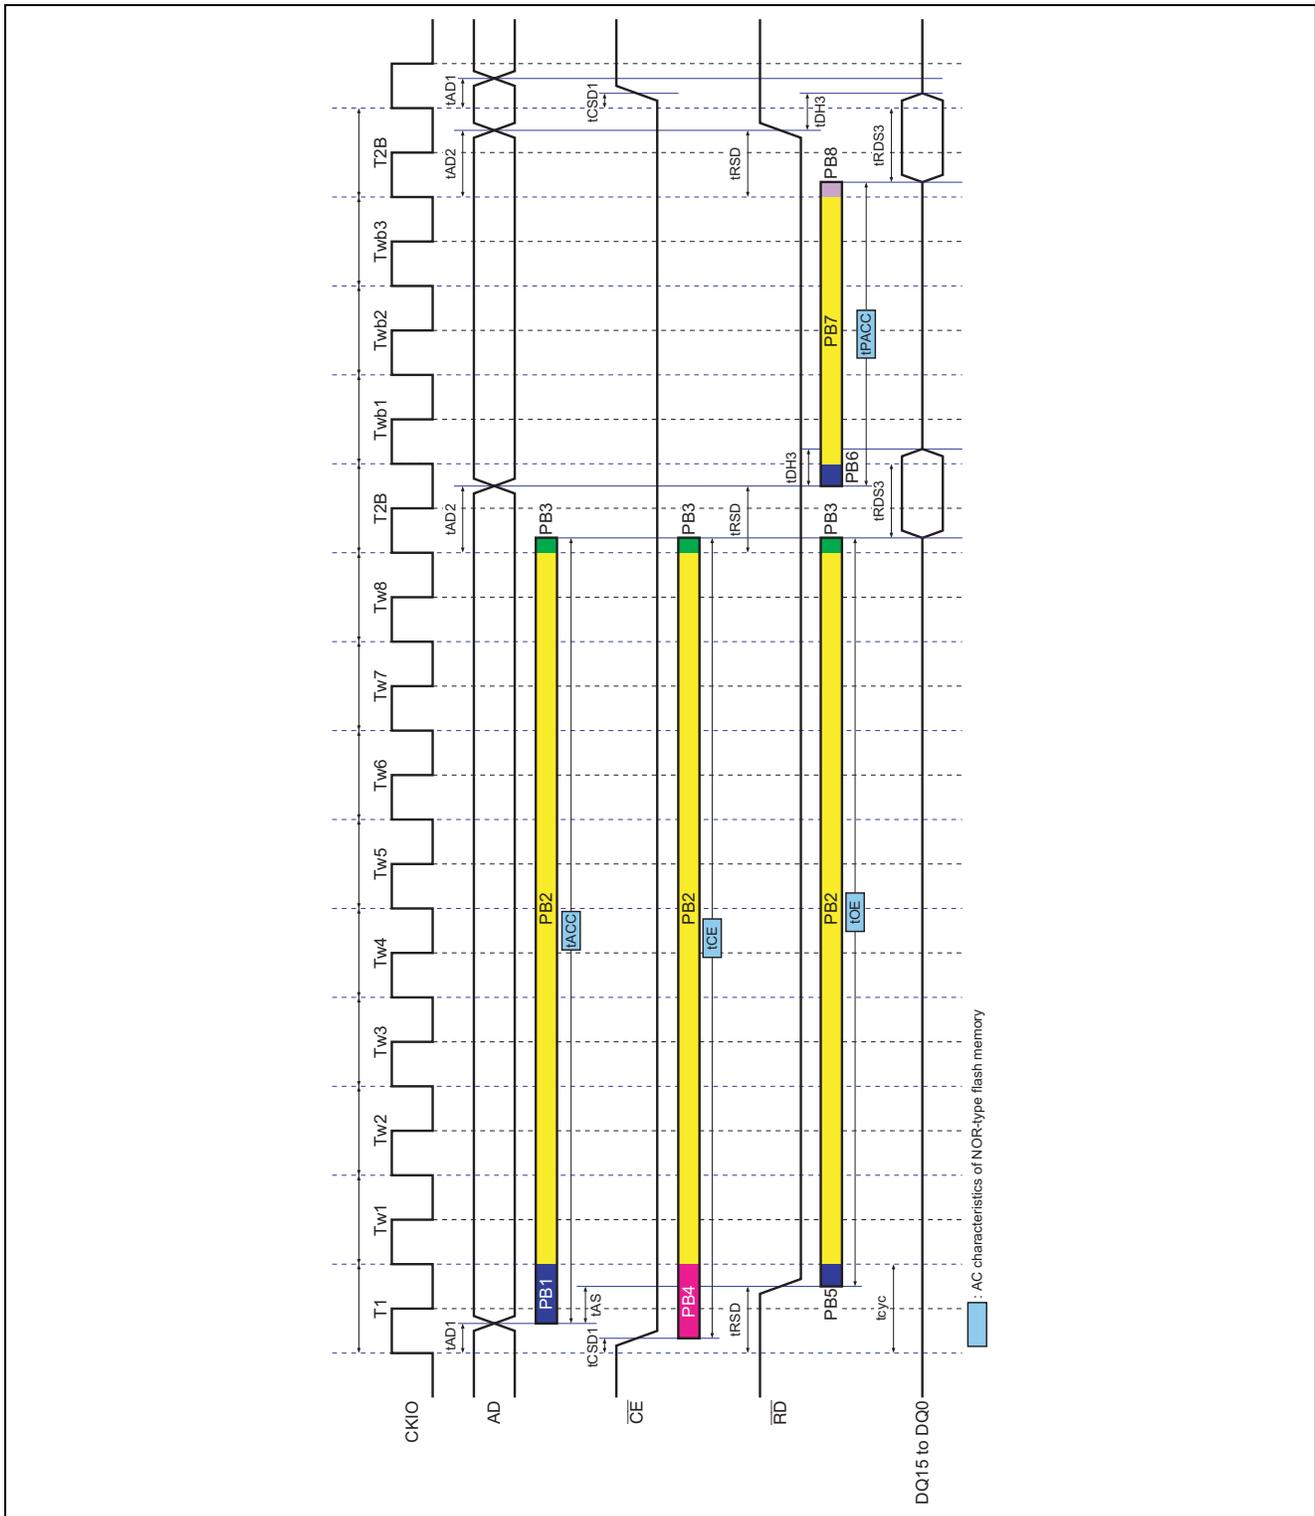

Figure 16 Page Read Timing of NOR Flash Memory When W = 8, BW = 3, and BST = 2 (2)
Figure 16 shows page read timing for NOR flash memory (2).